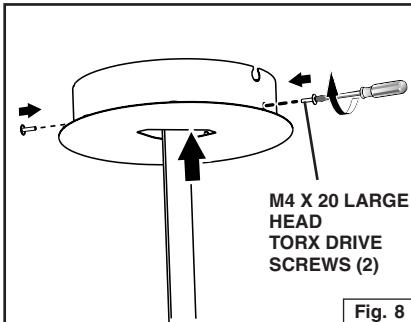

Fig. 8
5. Temporarily install the ceiling canopy and attach with (2) M4 x 20 large head torx drive screws. (You will need to remove it when making electrical connections.) Fig. 8.